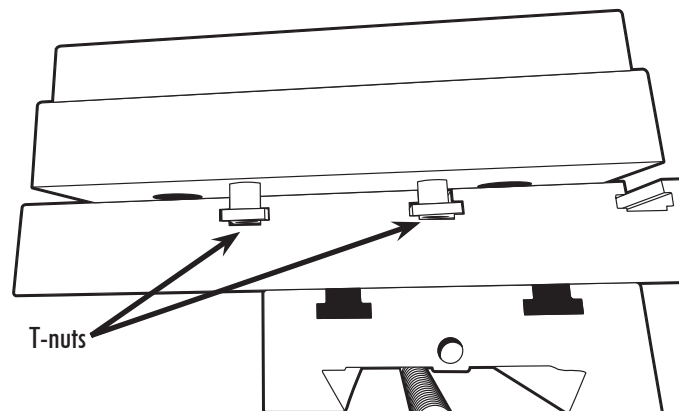

FIGURE 6—The T-nuts are aligned with the T-slots in the tooling plate.
4. Align the T-nuts on the T-slots of your mill table or tooling plate. Then position the fixed jaw assembly in the desired location (see Figure 6).